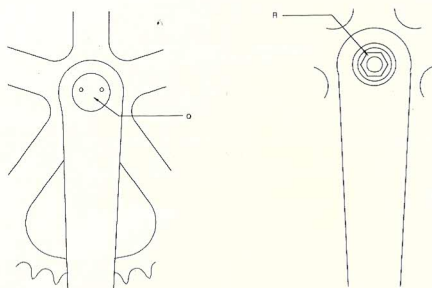

Figure 7
- fig 7 Crank Cap and Flange Nut